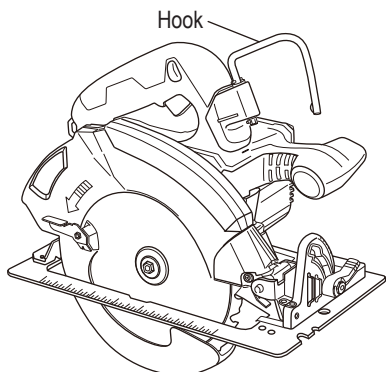

Fig. 18
- Turn the hook away from the saw body to hang the saw from a rafter, joist or other elevated support. (Fig. 18)